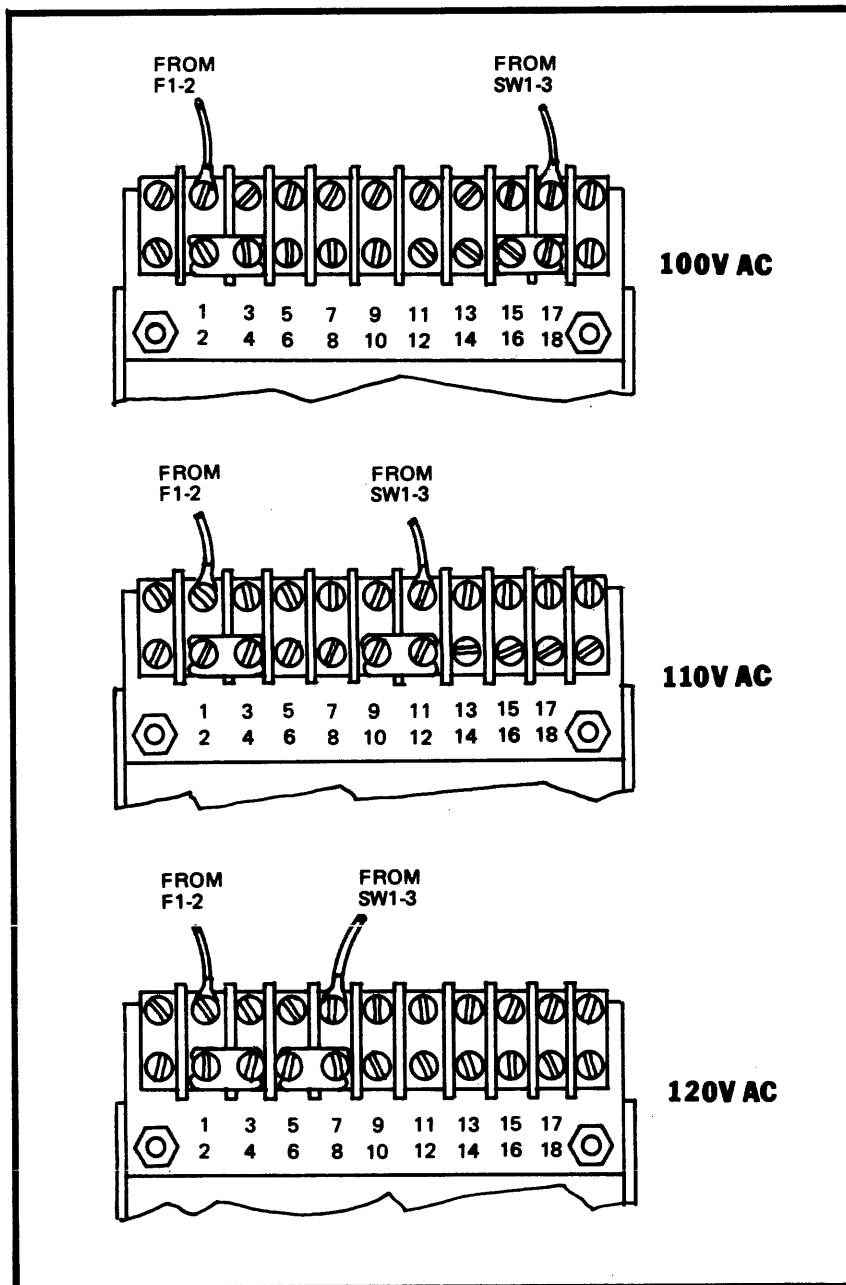

Figure 21. Transformer Connections for 100V/110V/ 120V
- b. Connect wire between SW1-3 and the appropriate transformer tap indicated in figure 21.
- c. Install transformer tap jumpers as shown in figure 21.